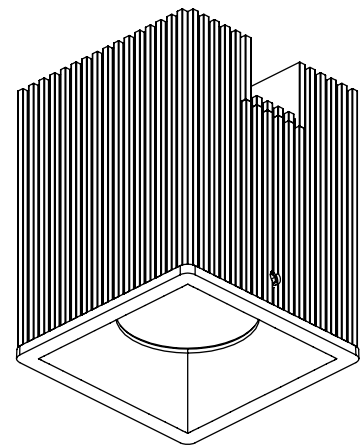

Fig. 17
3. Secure the **Trim** by tightening the **Set Screws** (Fig. 17).